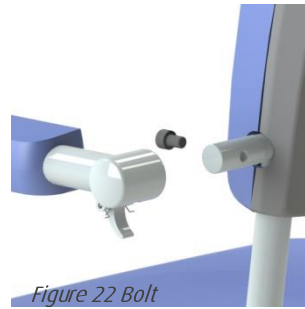

Figure 21 Armrest
- Allen key 6mm
- Check its room for motion, measured at the front point (replace if it is more than 4 cm.) (See figure 21).